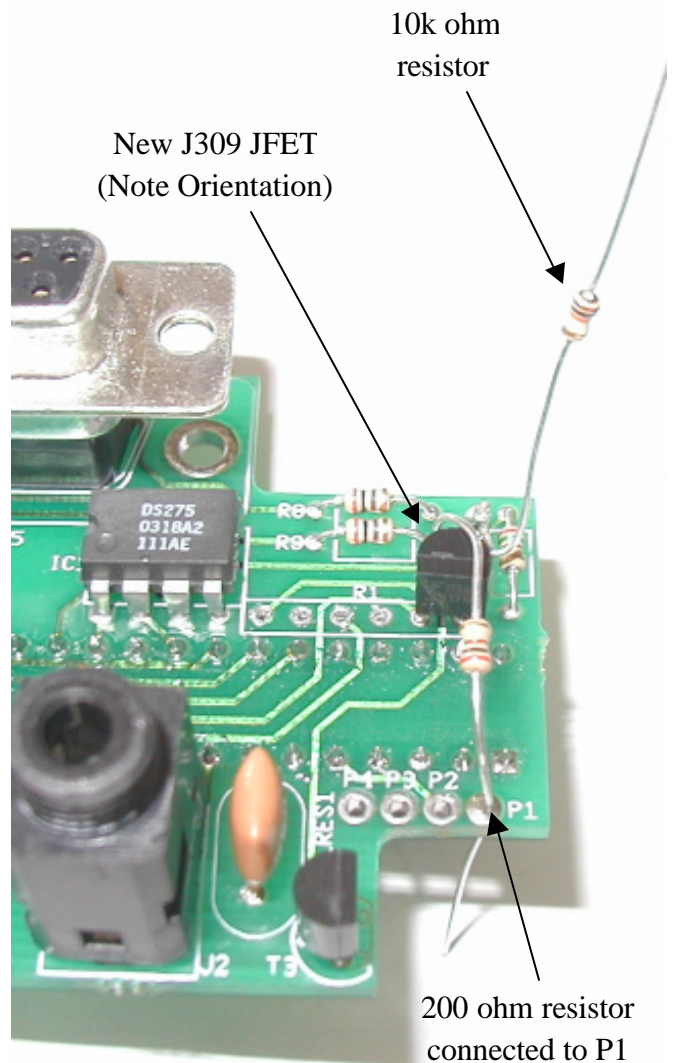

Figure 8: Install JFET and resistors assembly
8. Install the J309 JFET with attached resistors into the appropriate location for the channel you wish to modify for IR support. Note the orientation of the JFET. The flat side of the part should be facing the P1-P4 upgrade solder pads as shown in **figure 8** (right).